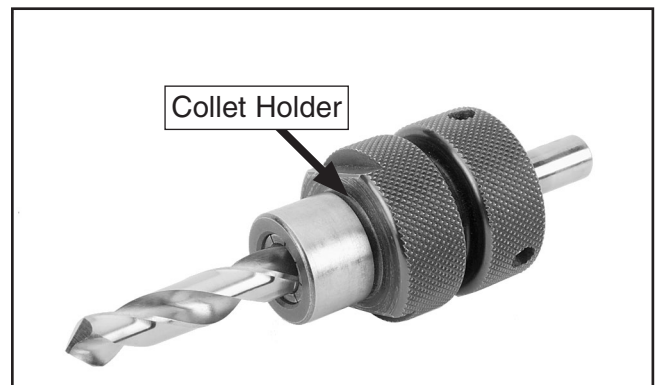

Figure 10. Drill bit installed in collet holder.
3. Thread the collet holder onto the lock ring two turns for now, and insert the drill bit into the collet holder as shown in **Figure 10**.